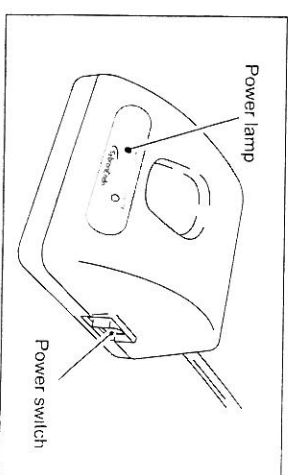

Fig. 12
- 3) Turn on the power switch. At this time, check that the power lamp lights. (Fig. 12)